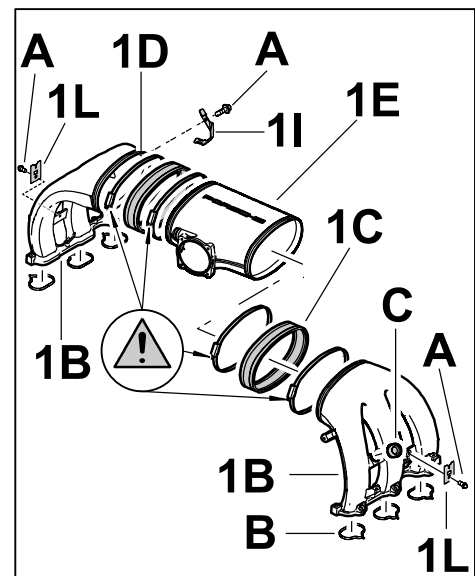

Figure 11
Align hose clamps ⇒ Figure 11 -1D-, in such a way that they can be accessed easily when the throttle housing and engine are fitted in the vehicle.
2.6.1 Place new rubber sleeve (⇒ 997.110.685.40; ⇒ *Figure 11 -1C-*) on the new intake-air distributor for cylinder row 1-3 (⇒ 997.110.115.40; ⇒ *Figure 11 -1B-*) and pre-fit loosely with a new hose clamp (⇒ 999.512.694.00; ⇒ *Figure 11 -1D-*).
2.6.2 Place new distributor pipe (⇒ 997.110.416.40; ⇒ *Figure 11 -1E-*) with new hose clamp on the rubber sleeve for the intake-air distributor for cylinder row 1-3 and pre-fit it loosely.
2.6.5 Fit new support for tank vent line (⇒ 997.110.429.40; ⇒ *Figure 11 -1I-*) on new intake-air distributor for cylinder row 1-3 using a new countersunk screw BM6 x12 (⇒ 999.073.189.09; ⇒ *Figure 11 -A-*).
- 2.6.6 Fit sleeve for temperature sensor (⇒ *Figure 11 -C-*) from the old intake-air distributor on the support for the intake-air distributor for cylinder row 4–6 and insert temperature sensor into sleeve.
- 2.6.7 Fit both supports (⇒ 997.110.433.40; ⇒ *Figure 11 -1L-*) on the two intake-air distributors as shown in *Figure 11* using new countersunk screws BM6 x12 (2 x ⇒ 999.073.189.09; ⇒ *Figure 11 -1A-*).
- 2.6.8 Position new seals (6 x ⇒ 997.110.247.00; ⇒ *Figure 11 -B-*) on the intake-air distributor flanges.